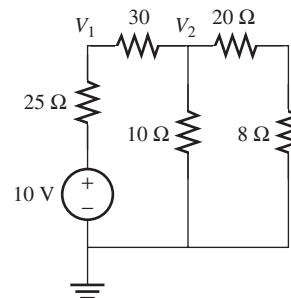

FIGURE P3.34 Circuit for Problem 3.34.
3.34 (B) Find V_1 and V_2 in Figure P3.34.
3.45 (A) Use mesh analysis to find the current through the 8- Ω resistor in Figure P3.34.